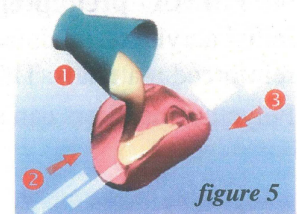

figure 5
5. Fill the mold or impression with the resin and position the *Fiber* over the abutments and across the pontic. Position the *Mesh* pieces in the mold or impression on top of the abutment spaces (*figure 5*).